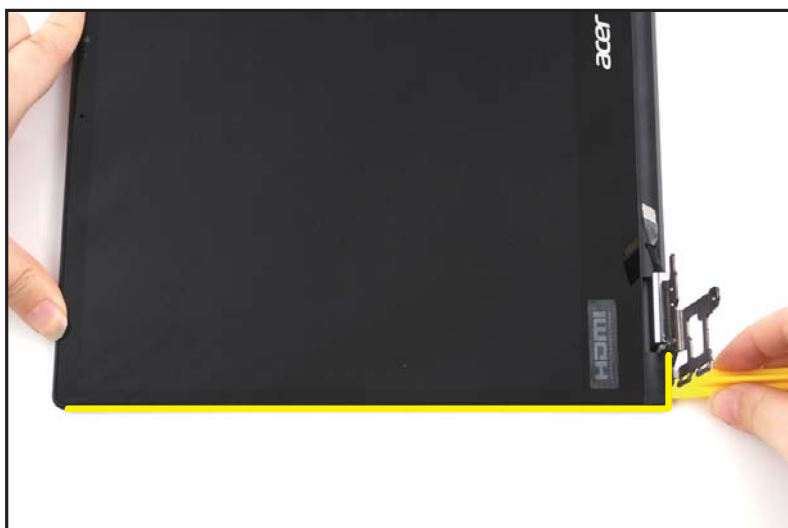

Figure 1-35. LCD Panel Removal
1. Pry the LCD panel from the left side to release latches (Figure 1-35).